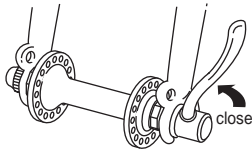

fig. 12 QR Closed Position
(2) With the steering fork facing forward, insert the wheel between the fork blades so that the axle seats firmly at the top of the slots which are at the tips of the fork blades -- the fork dropouts. The quick-release lever should be on the *left* side of the bicycle (fig. 12 & 13). If your bike has a clip-on type secondary retention device, engage it.